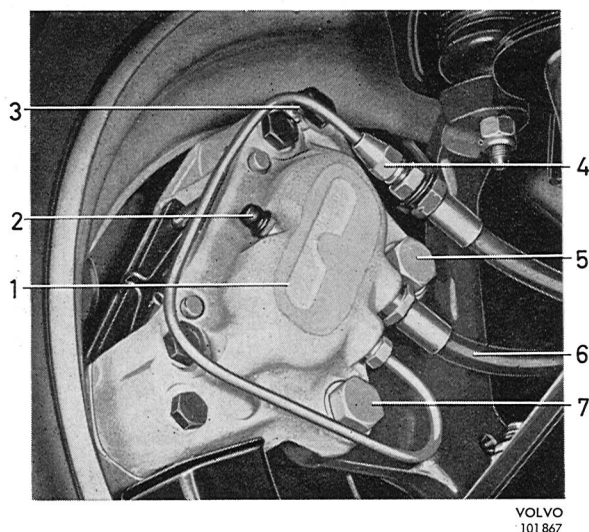

Fig. 5-20. Front wheel brake unit fitted
4. Remove the attaching bolts (5 and 7, Fig. 5-20) and the brake caliper.